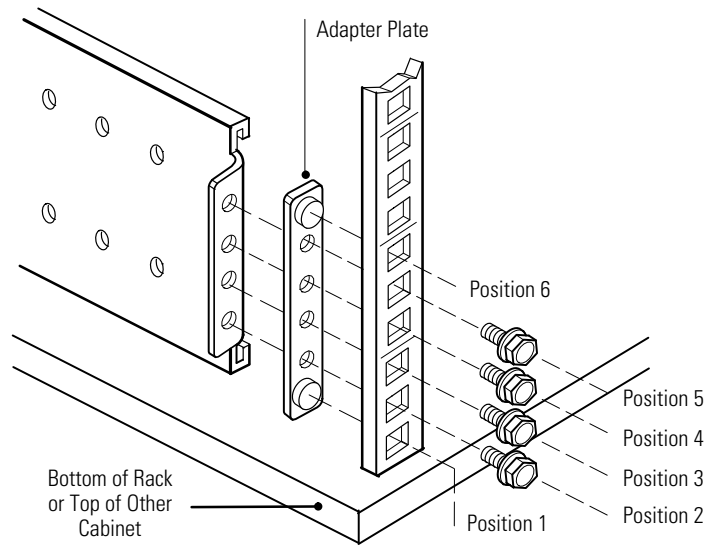

Figure 4. Securing the Rear Rail (Right Rail Assembly Shown)
5. Secure the rail to the rear of the rack with four M5 machine screws and an adapter plate (see Figure 4).